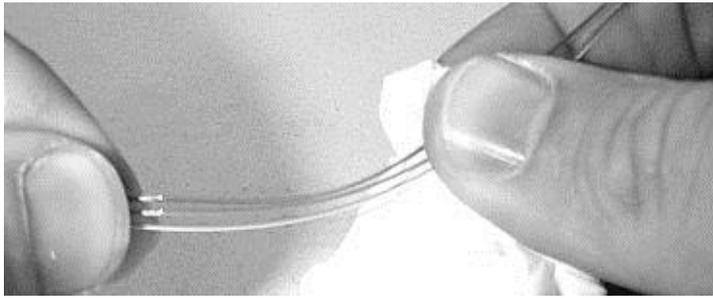

Figure 33 – Clean the optical fibers.
5.22 Clean the exposed fibers using a lint free wipe soaked with isopropyl alcohol (Figure 33). Fasten the tube(s) to their corresponding splice organizing tray.